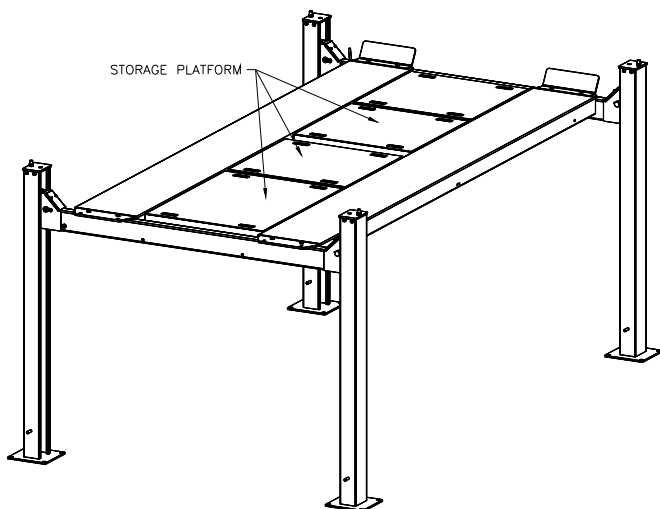

Fig 20 – Storage Platform
- 1) Up to four Storage Platforms can be placed between the runways, **Fig 20**.